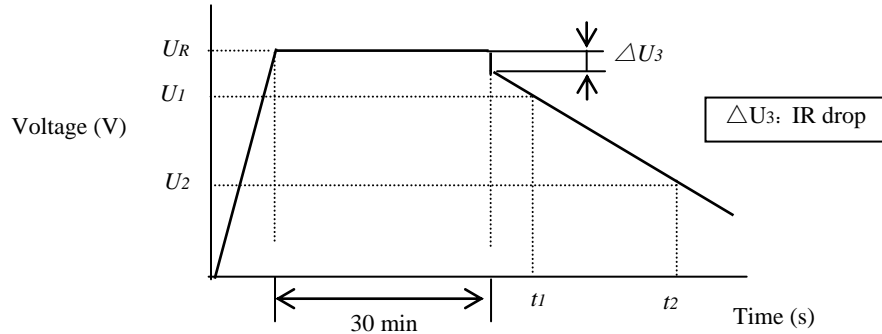

Figure 2- Voltage characteristic between capacitor terminals
3.2	<p><Condition> Constant current discharge method: Measuring circuit:</p>  <p style="margin-left: 20px;">Constant current / constant voltage power supply</p> <p style="margin-left: 20px;">Constant Current Discharger</p> <p>Key</p> <ul style="list-style-type: none"> A d.c. ammeter V d.c. voltmeter S changeover switch Cx capacitor under test <p style="text-align: center;">Figure 1- Circuit for constant current discharge method</p> <p>Measuring method</p> <ol style="list-style-type: none"> a) Set the d.c. voltage at the rated voltage (U_R) b) Set the constant current value of the constant current discharger to the discharge current specified in Table 1. c) Turn the switch S to the d.c. power supply, apply voltage and charge for 30 min after the constant current / constant voltage power supply has achieved the rated voltage. d) After a charge for 30 min has finished, change over the switch S to the constant current discharger, and discharge with a constant current. e) Measure the time t_1 and t_2 where the voltage between capacitor terminals at the time of discharge reduces from U_1 to U_2 as shown in Figure 2, and calculate the capacitance value by the following formula: